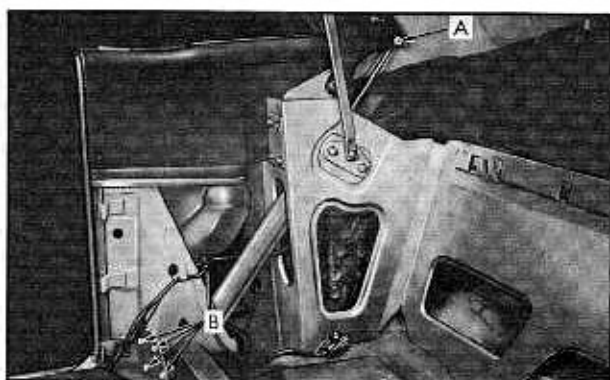

Fig. 3-88 Removal of Folding Top Lift Cylinder
4. Remove nut and bolt "A" connecting lift cylinder piston rod to top linkage. Fig. 3-88.
(71) Hydro-Lectric Motor and Pump Removal and Installation